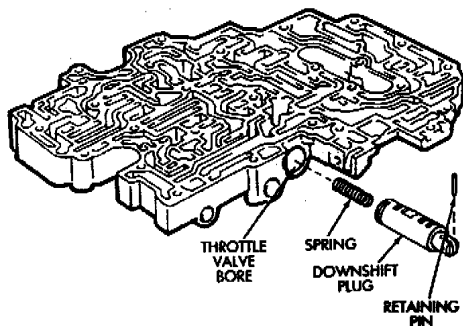

Fig. 19 Installing Downshift Plug
- (14) Install downshift spring and plug in throttle valve bore. Press plug inward against throttle valve and spring and install the retainer pin (Fig. 19).